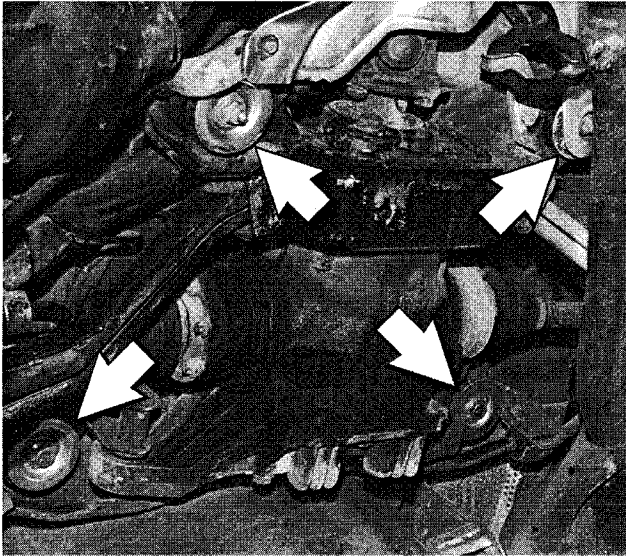

Fig. 22. Final drive carrier mounts (arrows).
8. Support final drive carrier with transmission jack. Remove mounting bolts and nuts at final drive carrier bushing mounts. See Fig. 22.